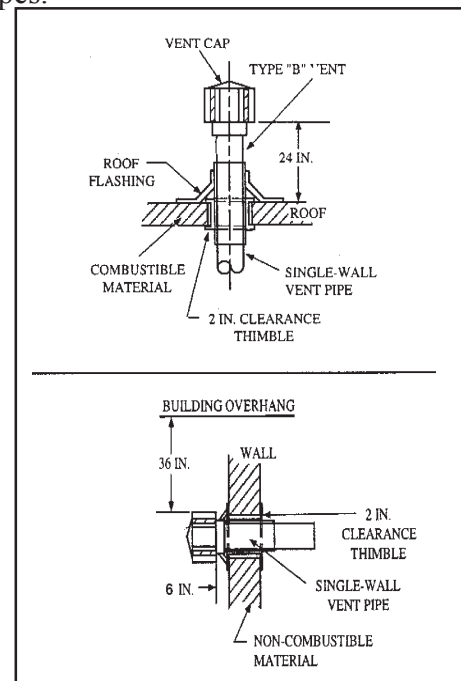

Figure 2-21
- Single wall galvanized flue pipe or Dura/Connect single wall, flexible connectors must be used. The portion of the flue pipe which goes through combustible material in the building wall or roof must pass through a type "B" vent to maintain clearances (See Figure 2-21 and 2-22).
- For stacks that exit the building horizontally, the flue should be 6 in. from the sidewall. Vent must also extend beyond any combustible overhang (Figure 2-21).